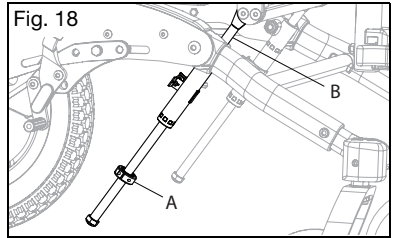

Fig. 18
1. Remove the screws from the tilt stops and install onto the shaft of the mech lock. Reinstall the screws, but do not tighten (Fig. 18:A). Repeat for opposite mech lock.
3. For limiting rearward tilt, slide the tilt stop to the bottom of the mech lock body and tighten into the place. For limiting forward tilt, the tilt stops may be placed above the body of the mech lock (Fig. 18:B). When the desired angle is achieved, slide the tilt stop